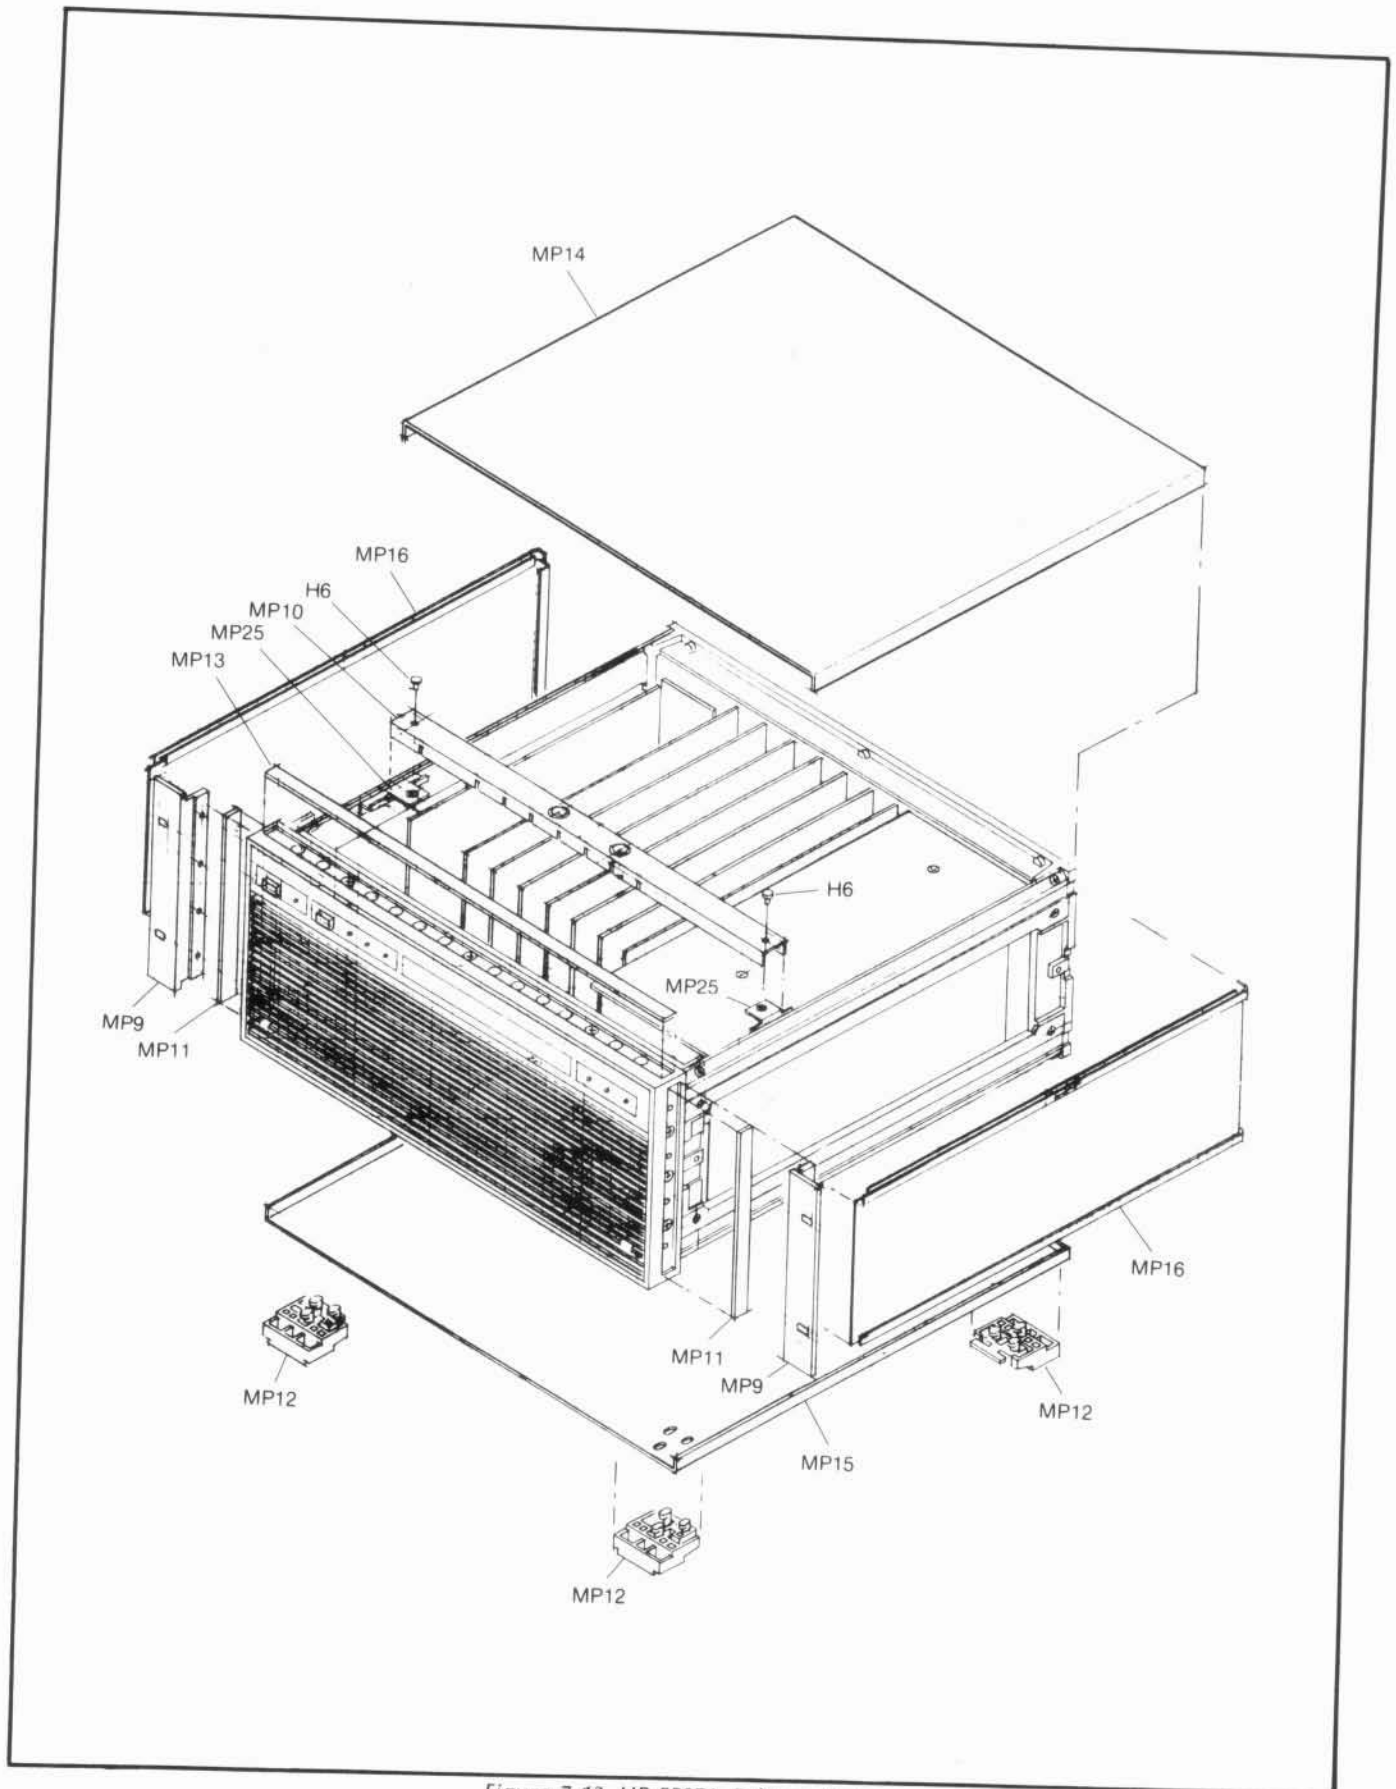

Figure 7-13. HP 5507A Cabinet Parts
- a. Remove HP 5507A top cover (MP14, *Figure 7-13*) following procedures previously outlined.
- b. Remove pc board retainer (MP10, *Figure 7-13*), held in place by two screws (H6, *Figure 7-13*) located at each side of the instrument.
- a. Remove HP 5507A top and bottom covers (MP14 and MP15, *Figure 7-13*) following procedures previously outlined.
- c. Remove left-side cover (MP16, *Figure 7-13*) as viewed from the front panel of the HP 5507A.
- a. Remove HP 5507A/B top cover (MP14, *Figure 7-13*) following procedures previously outlined.
- a. Remove top cover (MP14, *Figure 7-13*) of 5507A as previously described.
Part of Figure 7-13. HP 5507A Cabinet Parts